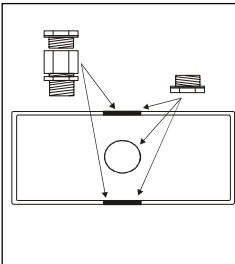

Fig. 1 : Cable Gland Positions
If using flexible cable, suitable glands incorporating cable clamps must be fitted to the knockouts in the Controller Box. (Refer to Fig. 1).
- 6 Make cable entry holes in the plastic and metal boxes by removing suitable knockouts (Refer to Fig. 1).